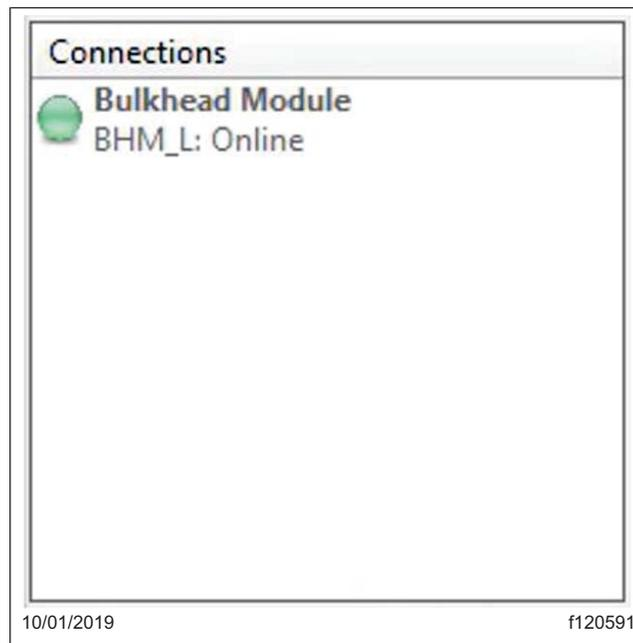

Fig. 1, Verifying that the Bulkhead Module is Connected
3. Ensure that the bulkhead module is connected. See Fig. 1.